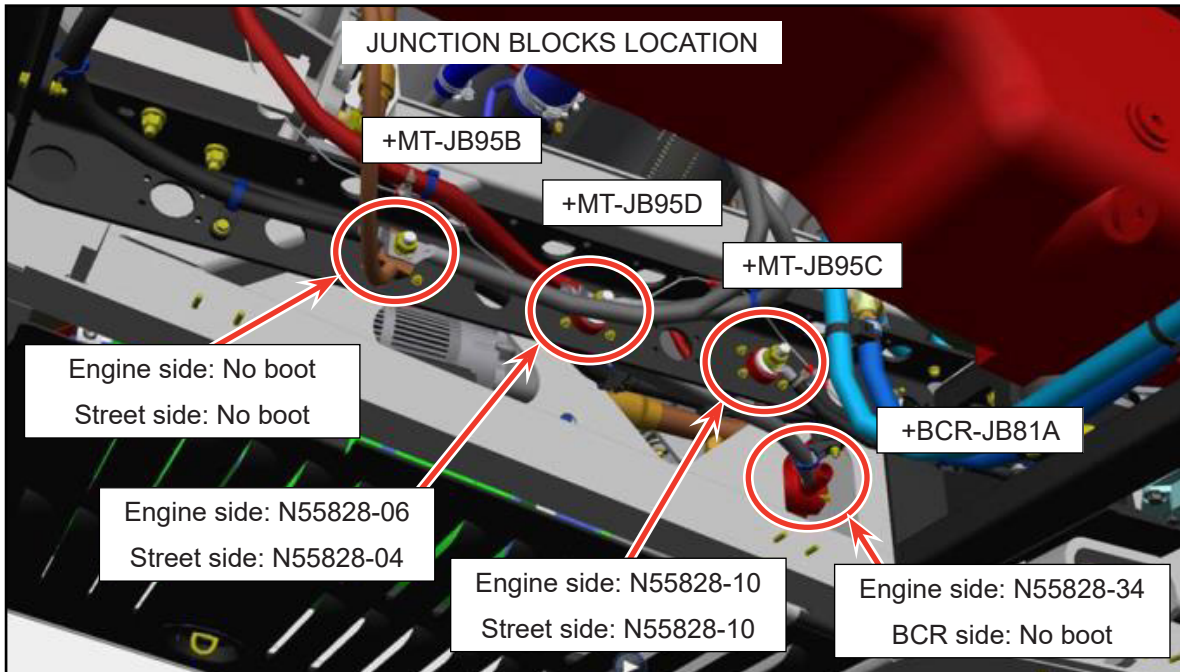
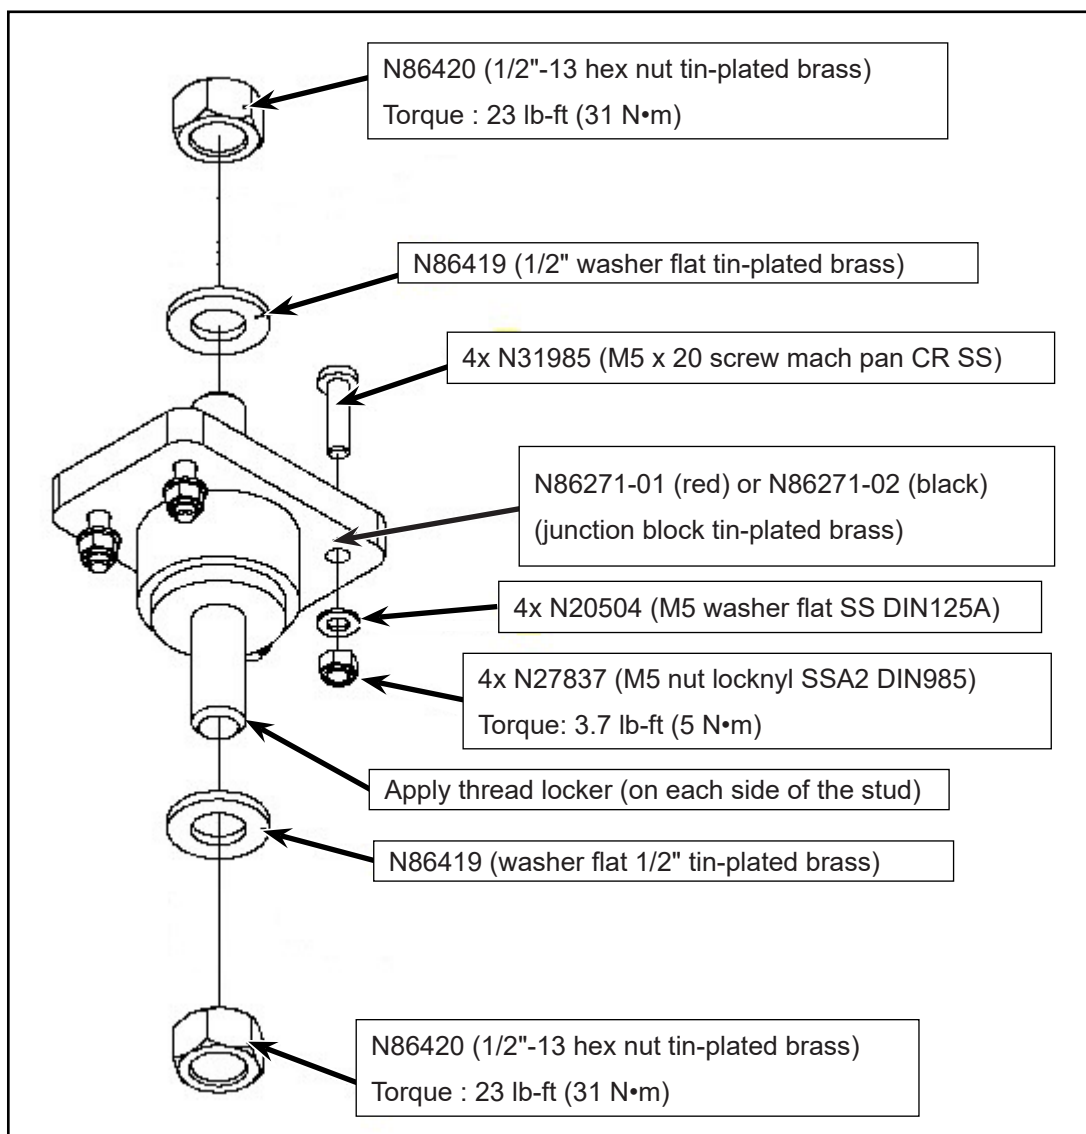

Figure 4 - Junction Blocks Location and Boot Part Numbers
Figure 12 - Exploded View of the New Junction Block Assembly
- 1.5. Locate the four junction blocks in the engine compartment at rear of the vehicle (see Figure 4).
Confirm the presence of the junction block protective boots and inspect each one for any significant damage that might compromise electrical safety (risk of short circuit between each positive junction block and chassis ground). If any protective boot is missing or replacement is required, please refer to the Level 2 "Replacement of Damaged or Missing Protective Boots" section. See Figure 4 for the protective boot part numbers.
- 2.13. Install the new junction block N86271-01 (red) or N86271-02 (black) (see Figure 4 for junction block locations) with their four mounting screws and torque to the specified values (see Figure 12).
- 2.15. Insert the N86419 - washer flat 1/2" tin-plated brass (one side at a time) as shown in Figure 12.
- 2.16. Apply N91901 thread locker blue in solid form (9g stick) or equivalent on the junction block stud threads ONLY (both sides, one side at a time) and then insert the N86420 1/2"-13 tin-plated brass hex nut (see Figure 12). To avoid contaminating / degrading the high-current cable terminals and junction block electrical contacts, do NOT use thread locker blue in LIQUID form as this product variant could wick or drip on the contacts surface.
- 2.17. Torque the N86420 - nut 1/2"-13 tin-plated brass to the specified values, one side at a time (see Figure 12).